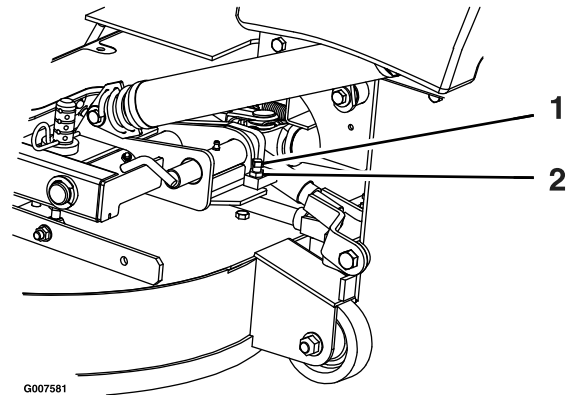

Figure 70
2. Loosen the jam nut and turn the stop screw clockwise until the locking pin is tight and cannot be rotated by hand (Figure 70).